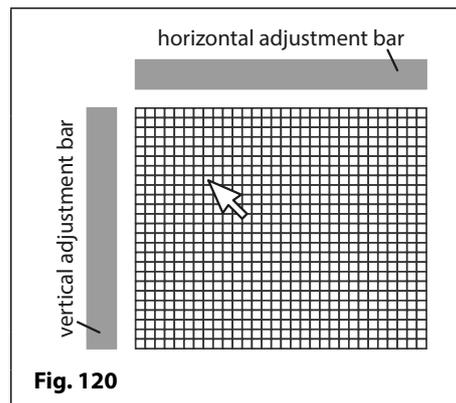

Fig. 120
- Next move the cursor onto the main editing area and position the pointer to where the text will be located, as shown in **Fig.120**;